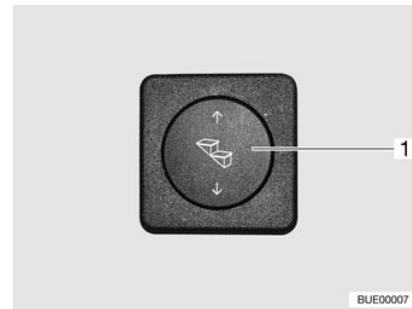

Fig. 4 Operating switch entrance step
- Press the rocker switch (Fig. 4,1) down until the entrance step has extended completely.
- Press the rocker switch (Fig. 4,1) up until the entrance step has retracted completely.